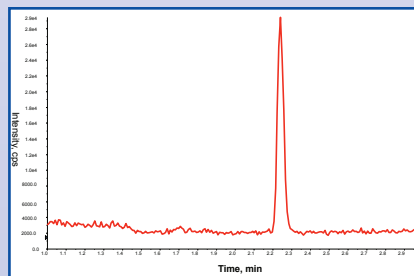

**Figure 1:** FTA DMPK-C Card
- ▶ Card type: FTA DMPK-C (GE Healthcare) containing Alturas Analytics CID #1 for visual spot verification (see Figure 1)